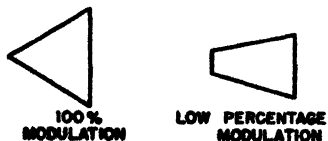

FIG. 4-8.—Cathode-ray trapezoidal pattern.
**Ans.** Figure 4-8 illustrates a trapezoidal pattern as indicated on the screen of a